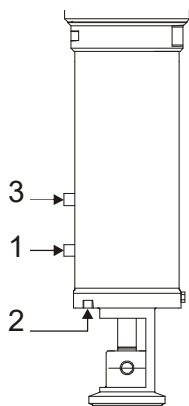
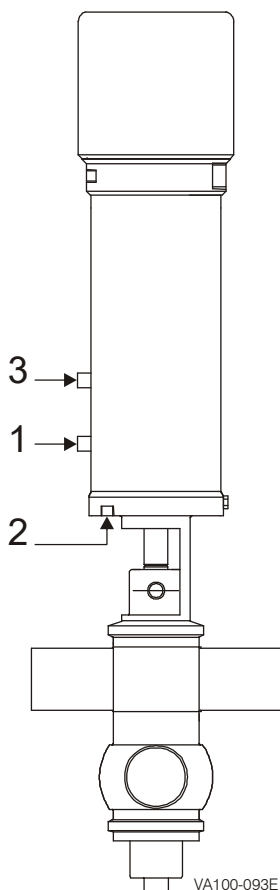

Figure 3 - Solenoid Valve Port Connections
Figure 10 - Solenoid Valve Port Connections
5. Connect the air lines to 1, 2 and 3, as shown in Figure 3, left, and Figure 10 on page 17.
Up to three air supplies controlled by solenoid valves supply air to the valve actuator (Figure 10).
See Figure 10 on page 17 for port and corresponding chambers.